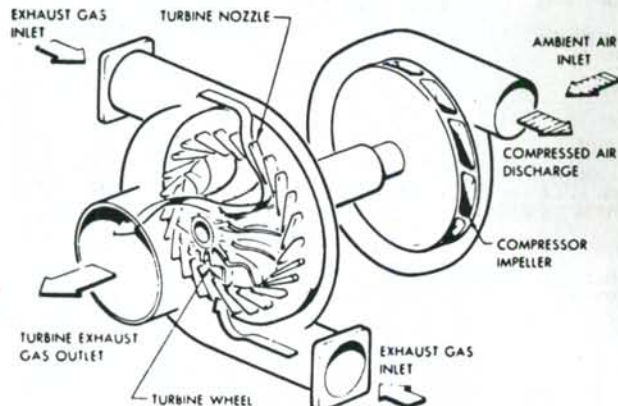

Fig. 75—Schematic view of turbocharger showing principles of operation.
Model 2290, 2390, 2590, 2294, 2394 and 2594 tractors are equipped with a Garrett (AIRsearch) Model T04B turbocharger. Refer to Fig. 75. The unit mounts on exhaust manifold and uses exhaust pressure to slightly compress the intake air.
85. Fig. 75 shows a schematic view of turbocharger unit. Exhaust manifold is split, three cylinders porting into each half, thus minimizing energy loss due to intermixing. Exhaust gas energy turns turbine wheel at a speed which may vary from a few thousand to 125,000 rpm, depending on engine speed and load. The compressor impeller supplies air to intake manifold at above normal atmospheric pressure. The additional air entering combustion chamber permits an increase in amount of fuel burned, and increased power output over an engine of comparable size not so equipped.